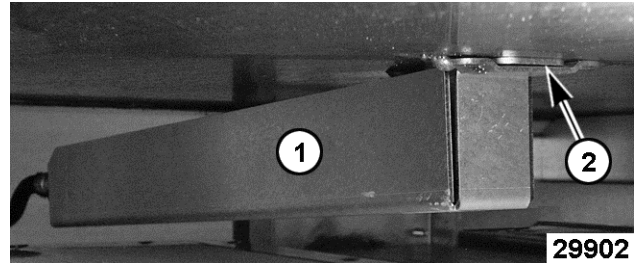

Fig. 16
- A. Push thermocouple shield (1, Fig. 16) toward the front of griddle to disengage the rear mounting tab (2, Fig. 16) on thermocouple shield, from the support bracket on the bottom of griddle plate. Rear view of thermocouple shield shown in Fig. 16.